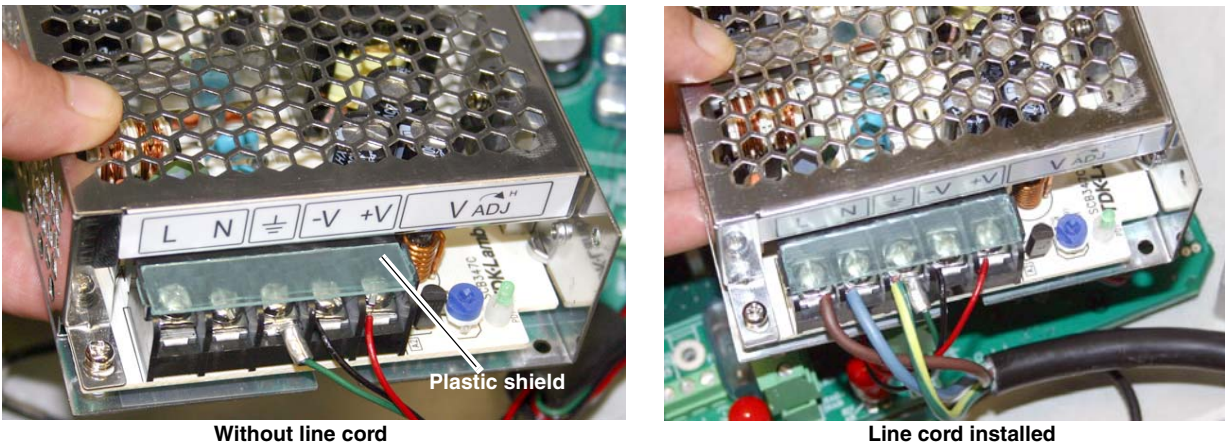

Figure 4-2 Access terminals and connect line cord
2. For access to the terminals on the power supply, remove the clear plastic shield protecting them (Figure 4-2). The Signature ground wire ends in a ring terminal so that the line cord ground wire can easily be connected to the same terminal.
7. Connect the line cord wires to the power supply, as shown in Figure 4-2, and then reinstall the plastic protective shield.